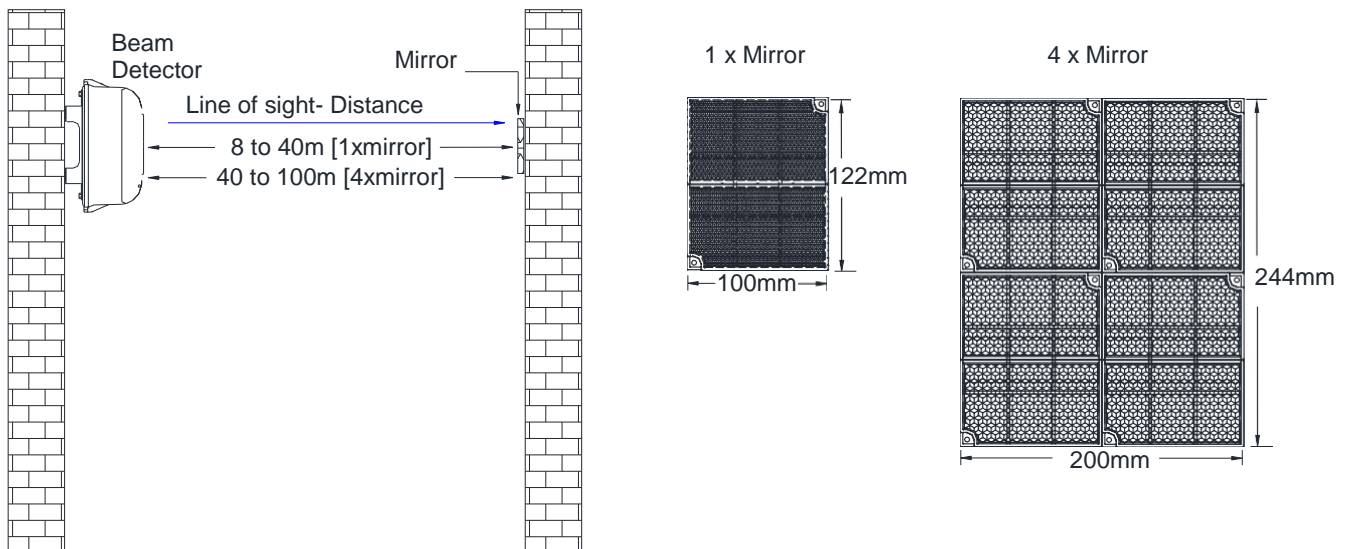

Figure 6: Mounting of Reflector Mirror
1. Depending on the project requirement, if the distance between the detector and the reflector mirror is 8m-40m, install one reflector is enough; if the distance is 40m-100m, four reflectors is required. Refer to Figure 6.
3. Fix the reflector mirror using two ST4x30 standard screws, in the case of one-unit mirror, do the same steps for other mirrors if required. Refer to Figure 6.